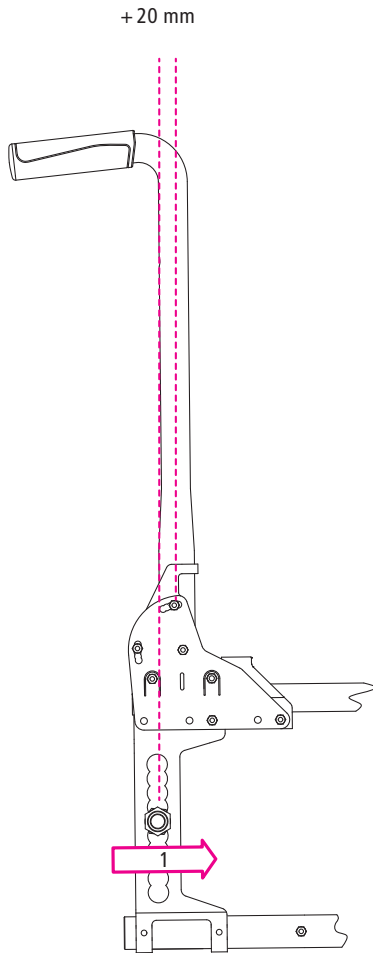

Fig. 48
1. To vary the position of the rear wheel, the adapter plate is moved forwards or backwards (1, Fig. 48).